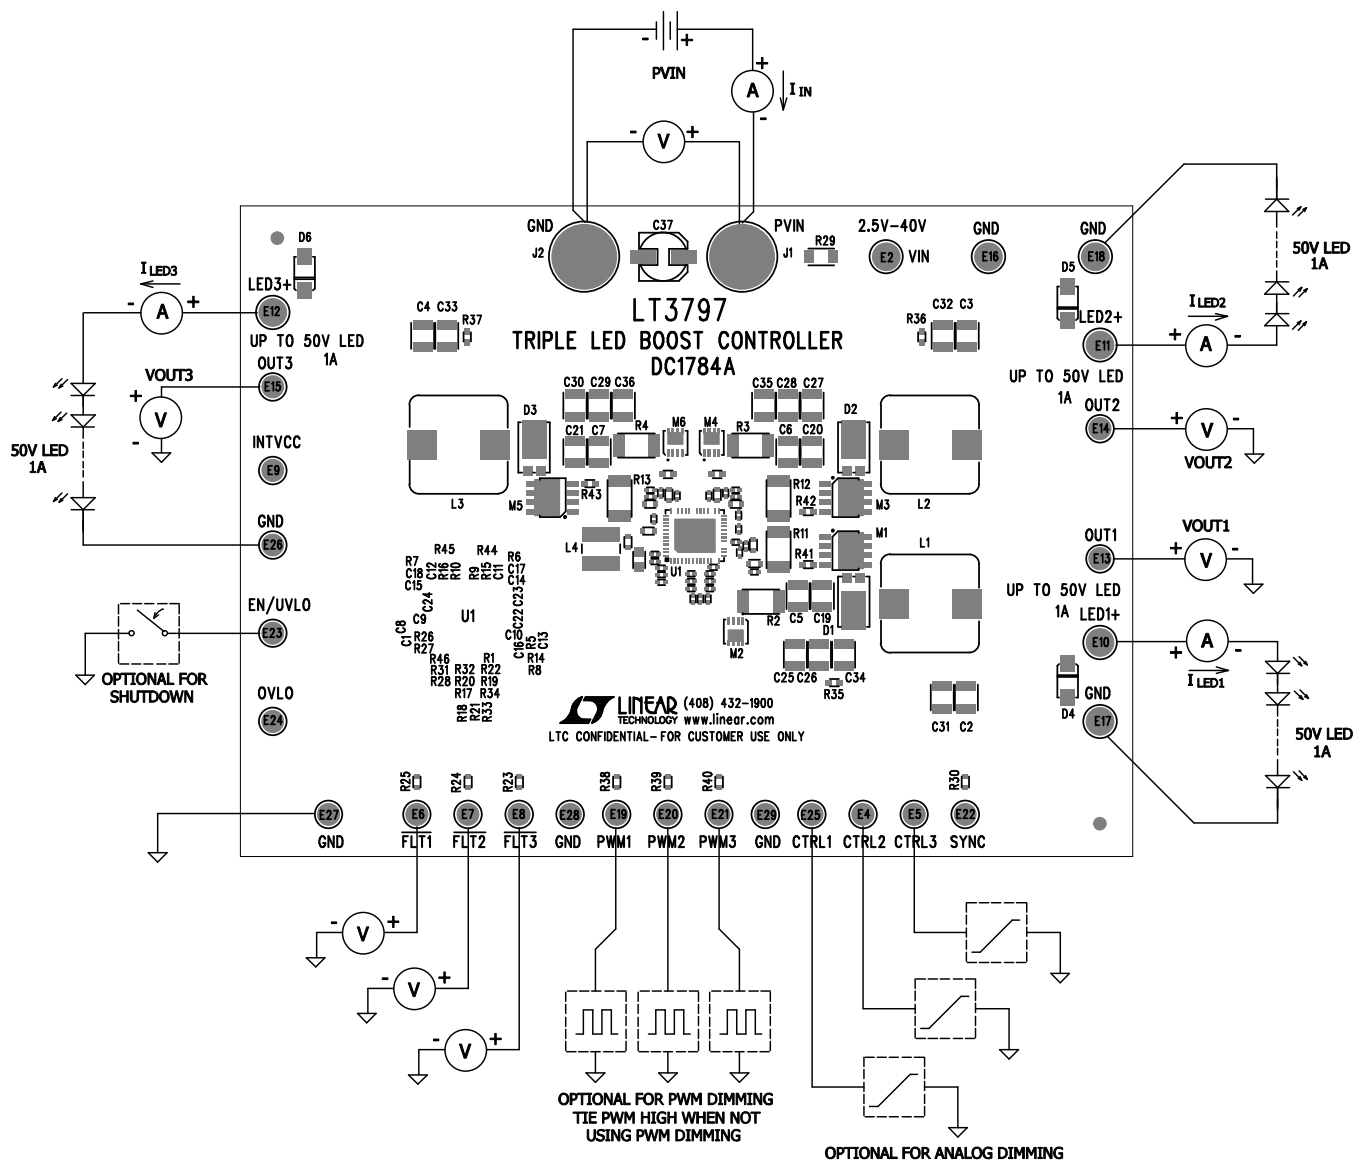

Figure 1. Test Procedure Setup Drawing for DC1784A
1. Connect three strings of LEDs that will run with forward voltage less than 50V (at 1A), but greater than PVIN, to the LED+ and GND terminals on the PCB as shown in Figure 1.